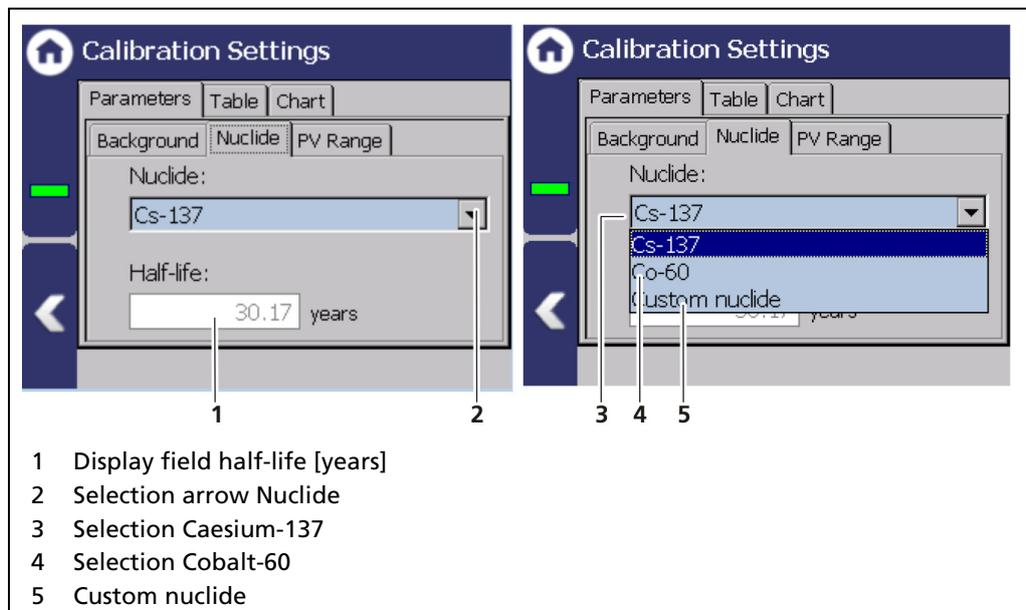
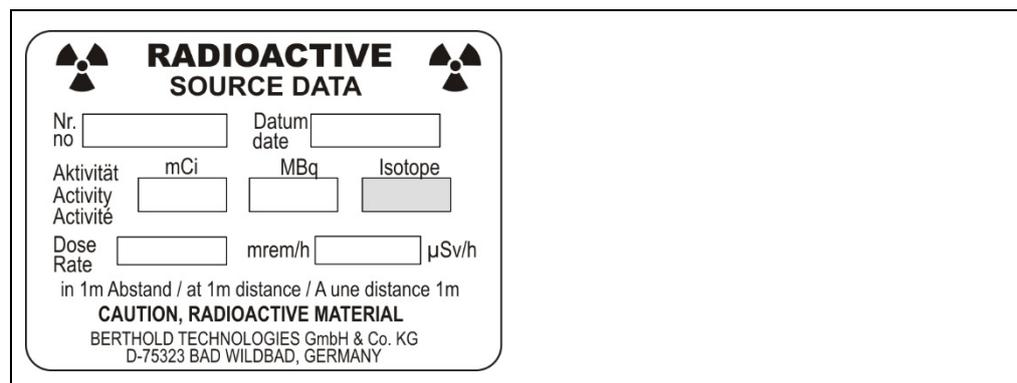

Fig. 77 Calibration Parameters: Nuclide
Fig. 78 Type Plate Source
The isotope used can be selected in the "Nuclide" tab. The half-life of the isotope is shown on the display field (Fig. 77, item 1).
1. Click on the selection arrow (Fig. 77, item 2).
2. Select the isotope used. Cs-137 (Fig. 77, item 3) or Co-60 (Fig. 77, item 4). The isotope of the source is on the type plate of the screen (Fig. 78).
3. When selecting "Custom nuclide" (Fig. 77, item 5), the half-life of the isotope can be entered.